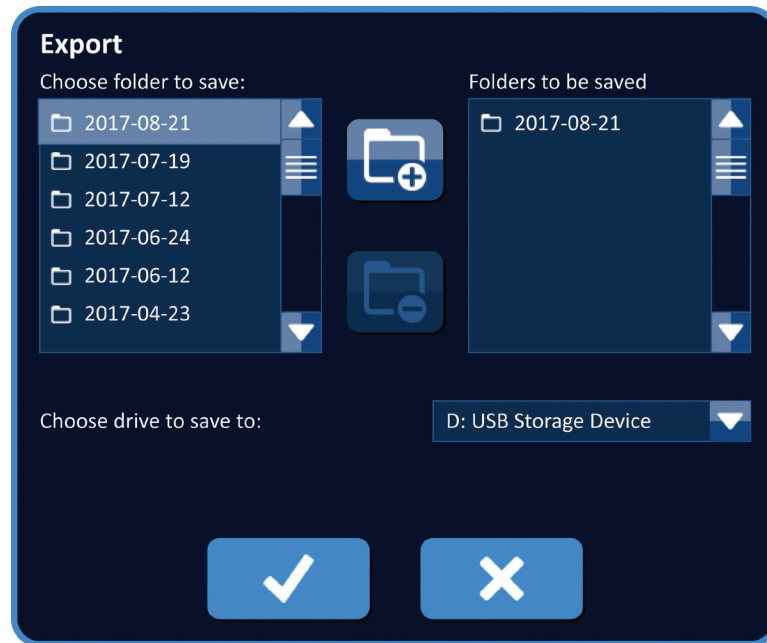

Figure 9.1.3: Export Dialog Box – Add Folder
2. Click the Add Folder  button to add the selected folder to the 'Folders to be saved' text box, Figure 9.1.3.